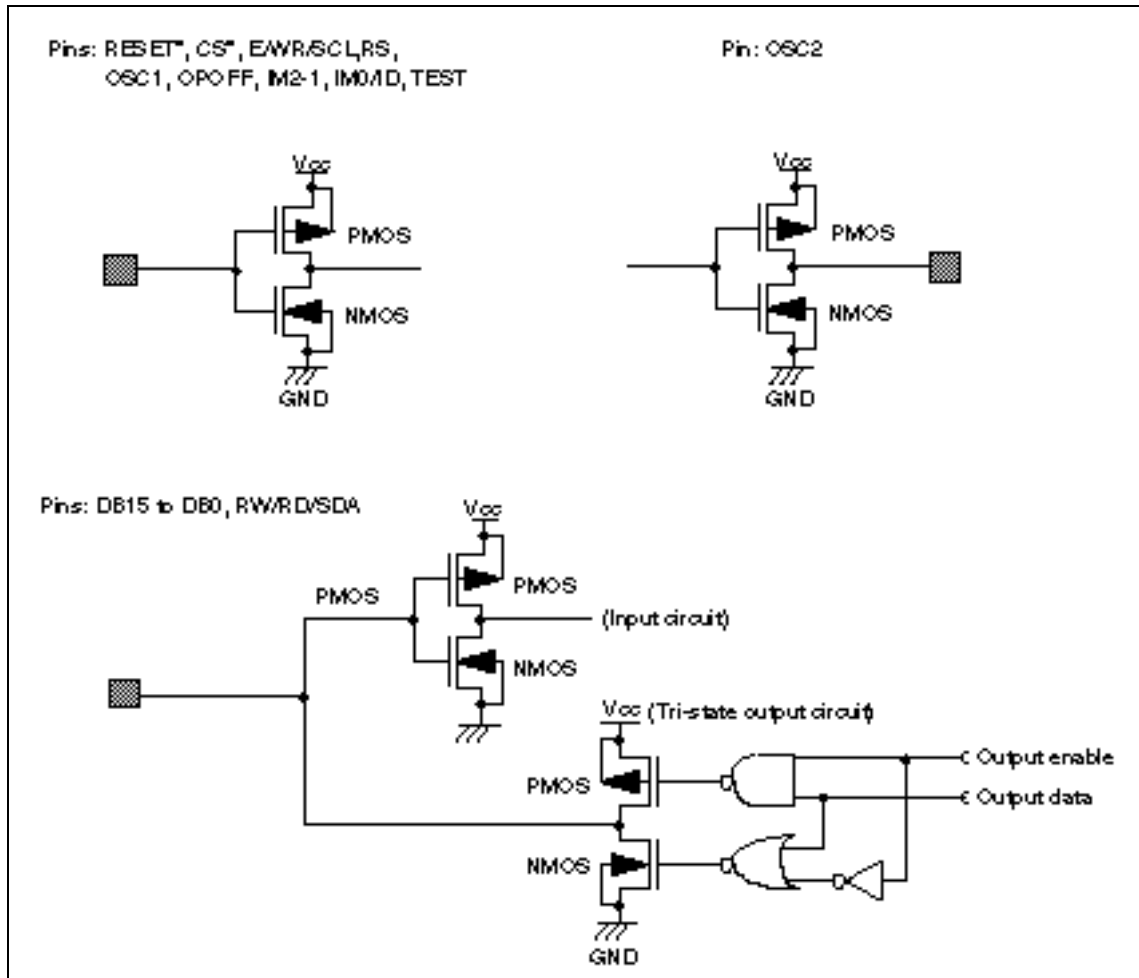

Figure 53 I/O Pin Configuration
2. The following three circuits are I/O pin configurations (figure 53).